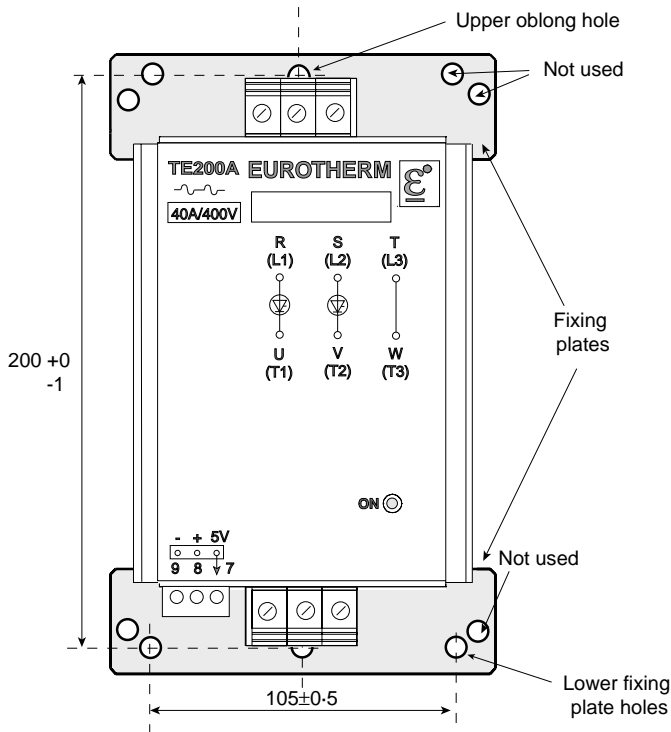

Figure 2-4 Bulkhead drilling and mounting dimensions (in mm) for the TE200A controller
- Drill three holes for M6 screws following the dimensions given in Figure 2-4